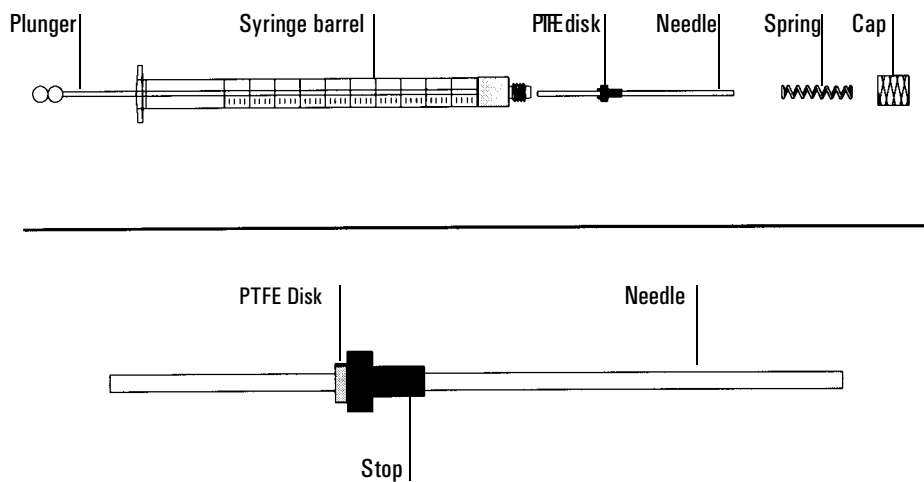

Figure 8 Syringe parts and assembly
2. Make sure the needle has the PTFE disk as shown in Figure 8. If the syringe barrel does not have the PTFE disk, use the instructions in the syringe box to wrap the needle yourself.